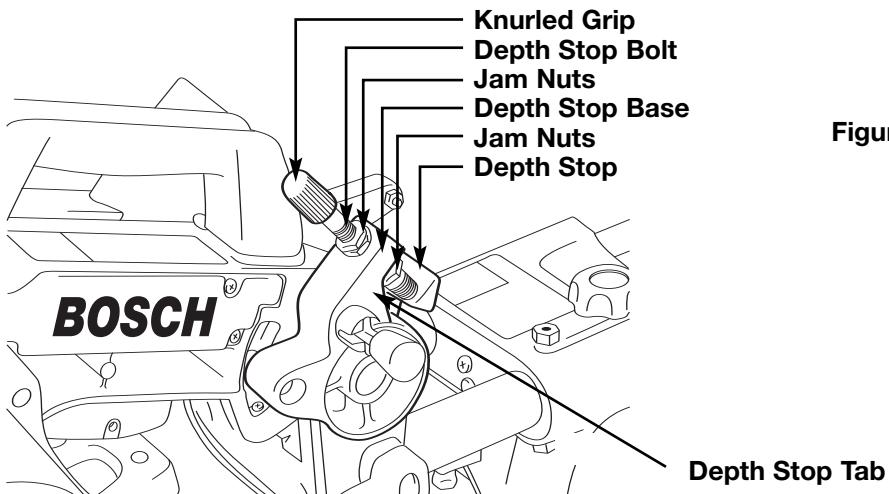

Figure 31. Cutting Grooves
- Set the depth of cut by loosening the jam nuts on the depth adjustment bolt (Figure 31). Do not change the position of the two (2) jam nuts on the end of the bolt.